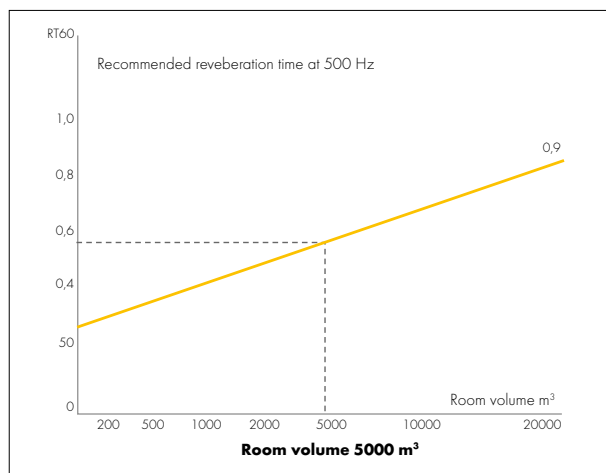
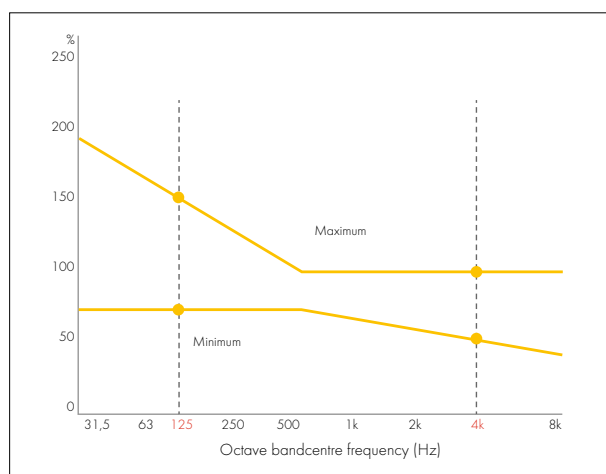
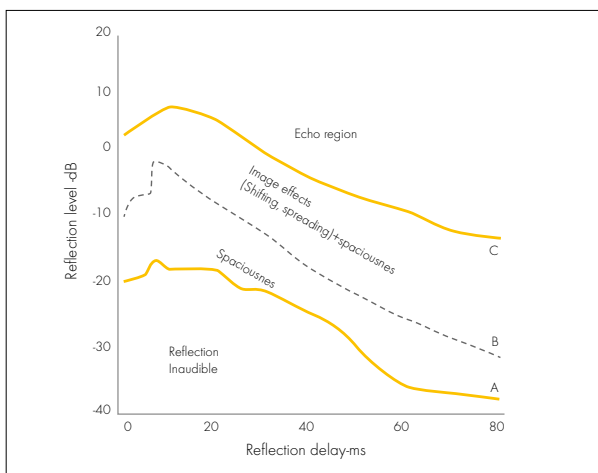

Figure 1*
Figure 2*
Figure 3
The reverberation time given by figure 1 corresponds with the level 100%. Maximum allowed deviation from this reverberation time at different frequencies are indicated by the upper and lower bounds in the figure. The increased amount of loudspeakers in today's cinemas has also increased the demand for absorption. As a consequence it is often recommended to reach the target values of the lower bound in figure 2, especially at higher frequencies.
Example: A 5000 m³ indicates 0,6 sec reverberation time (fig 1).
Used in figure 2 this gives allowed deviation at:
*Recommended reverberation times are based on many years of experience. The overall reverberation times for the frequency range 31,5-8000 Hz are estimated according to figure 1 and figure 2.
An ecogram is part of the outcome of an acoustic simulation and used for detecting reflections and finding harmful ones needing adjustment. The method is to compare the ecogram with the threshold curves in figure 3.
A mix of reflecting and absorbing surfaces is often necessary to meet the desired reverberation time according to figure 2 and to avoid harmful reflections based on the threshold curves (figure 3).